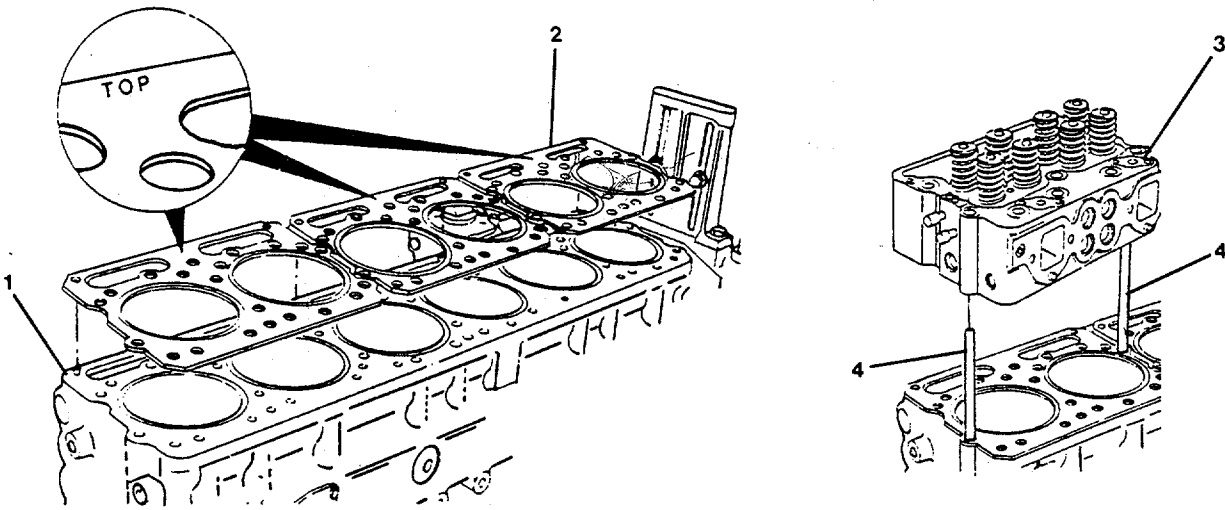

FIGURE 2-54. Positioning Head Gaskets.
- Be sure that the side of the gasket marked "TOP" is up (Figure 2-54).
- a. Install a new cylinder head gasket (2, Figure 2-54) on the dowel pins (1) in each cylinder block.
- b. Install two threaded guide studs (4) in each block for each cylinder head (3).